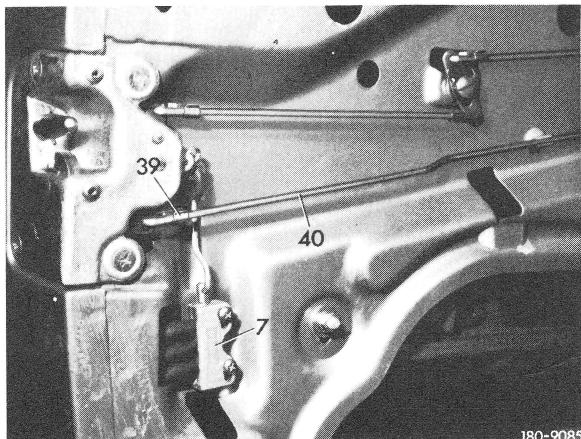

Fig. 1
- 2 Remove safety clip (39) of pullrod (40) (Fig. 1) and disconnect pullrod.
- 3 Unscrew sheet-metal screws from vacuum switch (7) (Fig. 1).
- 8 Attach vacuum switch (7) with sheet-metal screws in such a manner that switch will be hard to move within its oblong holes (Fig. 1).
- 9 Attach pullrod (40) and slip-on safety clip (39) (Fig. 1).